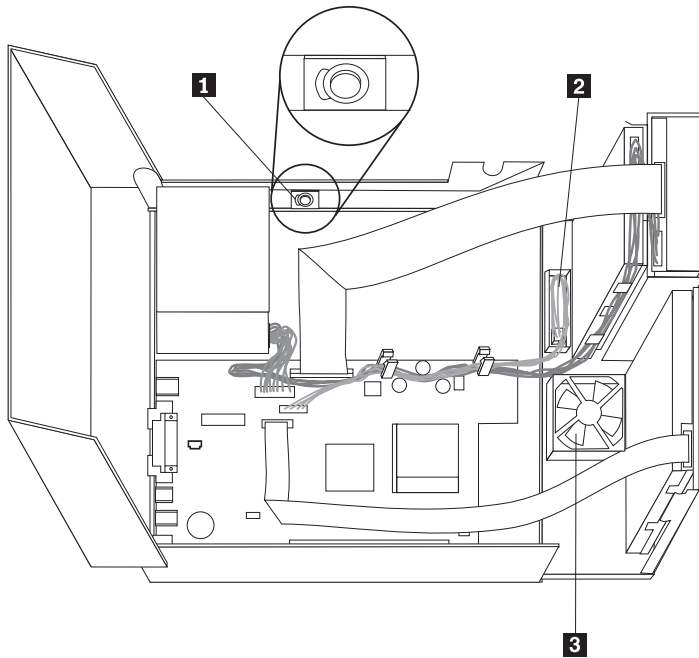

Figure 1. Speaker, fan, power button and LED assembly
4. Locate the speaker **1**. See Figure 1 on page 41.
- Lift the tab and slide the power button and LED assembly **2** out. See Figure 1.
2. Rotate the drive bay assembly upward to gain access to the fan assembly **3**. See Figure 1 on page 41.